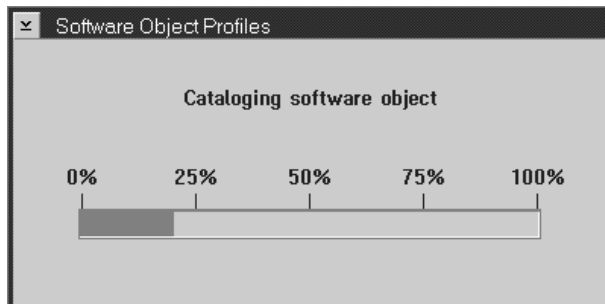

Figure 82. Software object profiles progress indicator
- 15** A progress indicator is displayed, as shown in Figure 82.